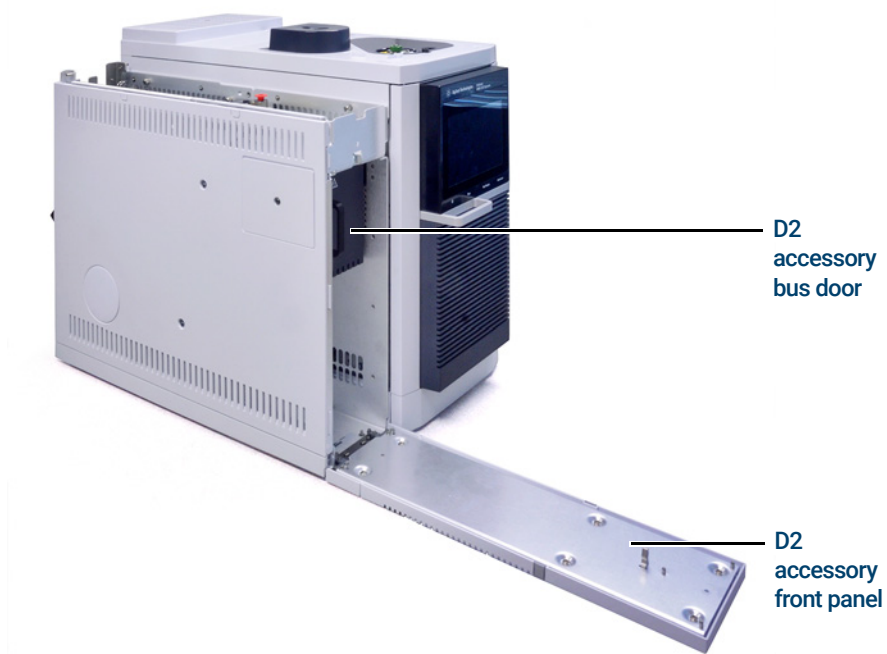

Figure 8. D2 accessory front panel and bus door
- a Lower the D2 accessory front panel. See **Figure 8**.